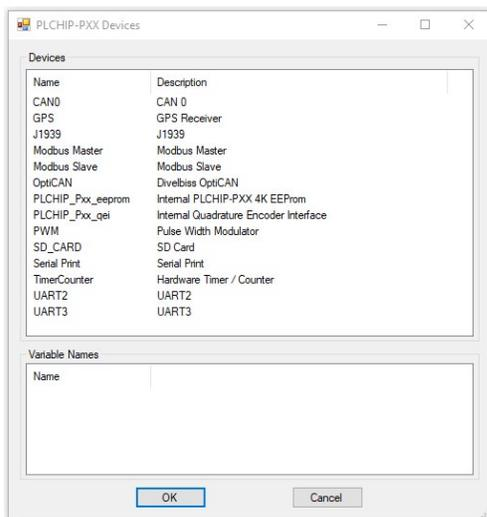

Figure 2-30- PLCHIP-PXX Devices - GPS
4. Click / select **GPS** (highlight). Refer to Figure 2-30. Click **OK**. The *GPS Properties* window will open identifying UART2 as the interface for the GPS. Click **OK**.